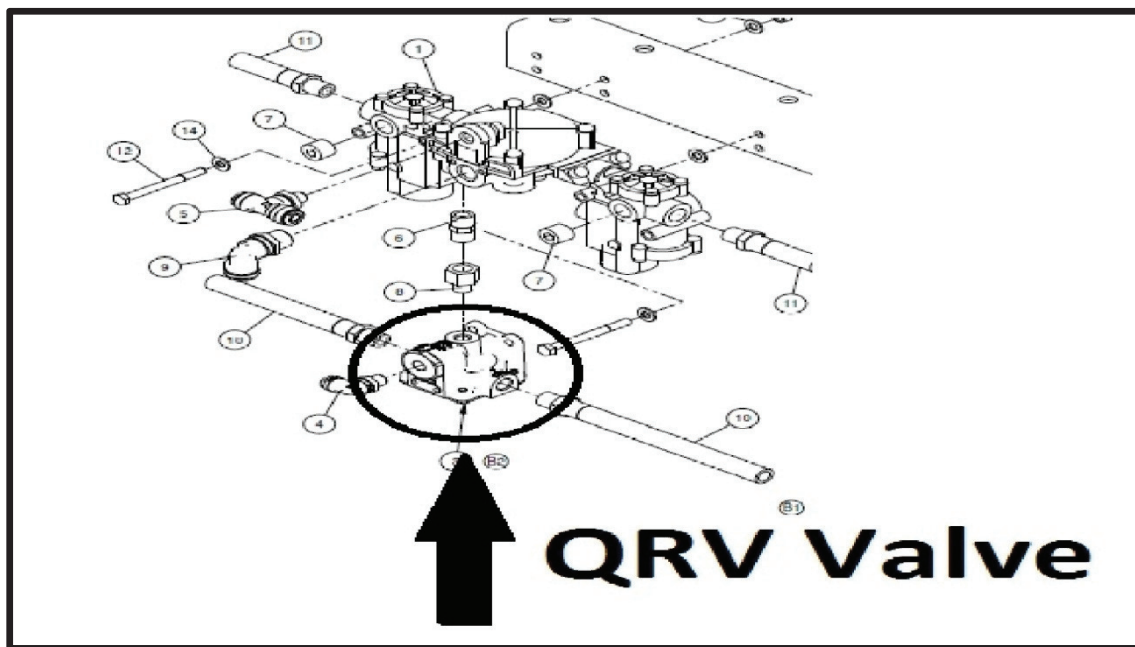

FIG. 2-1
2. Locate QRDC valve. QRDC valve is attached to the drive axle ABS modulator assembly mounted to the cross member in front of the drive axle. Refer to FIG. 2-1.